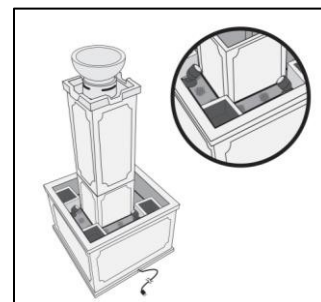

Fig. 8
8. Once satisfied with the flow of the water, setup the lights above splashguard and adjust the beams to point towards the top of the tower. Fig. 8.